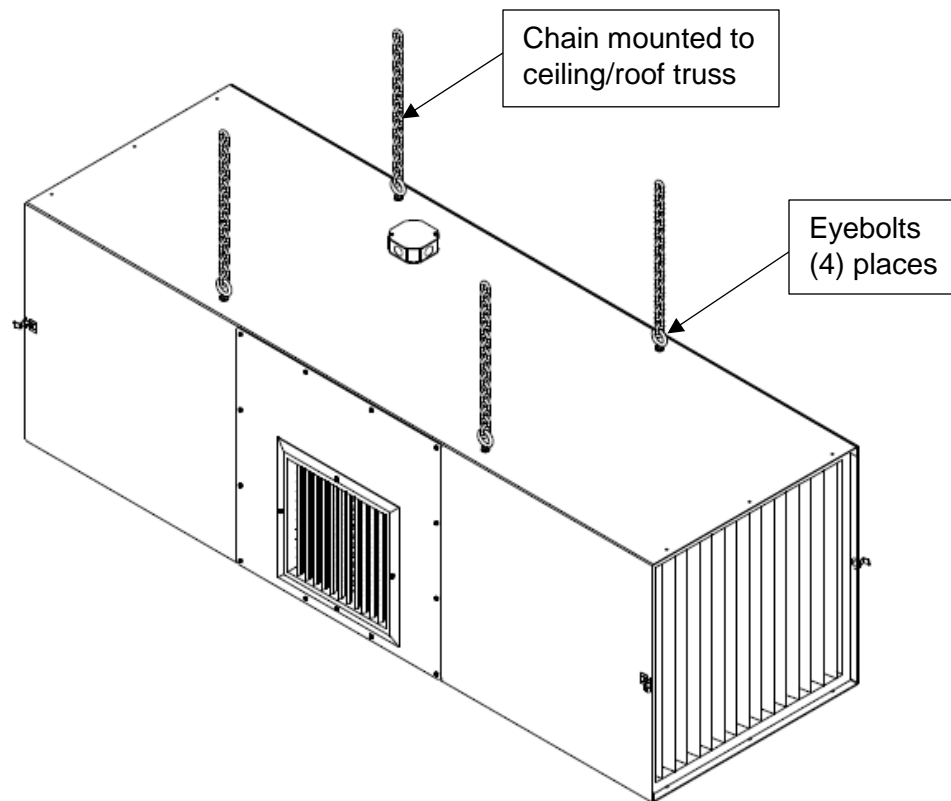

FIG. 1
3. Once eyebolts are secured, the MXT3500 is ready to be hung in an appropriate location (See **FIG. 1**).
2. Lift unit to access the threaded holes on the bottom of the cabinet. **NOTE:** The cabinet can be lifted by installing eyebolts on the top. Eyebolts are not supplied by Micro Air (See **FIG. 1**).
2. Install wall mount. The brackets have (8) 7/16" holes to mount to wall. The holes are spaced 16" apart horizontally by 24" vertically. **NOTE:** Anchors are not supplied by Micro Air. Minimum embedment depth for a 3/8" dia. wedge anchor is 1-1/2".
3. Lift unit to access the threaded holes on the bottom of the cabinet. **NOTE:** The cabinet can be lifted by installing eyebolts on the top. Eyebolts are not supplied by Micro Air (See **FIG. 1**).
3. Lift unit to access the holes on the bottom of the cabinet. **NOTE:** The cabinet can be lifted by installing eyebolts on the top. Eyebolts are not supplied by Micro Air when the unit is supplied with the floor stand (See **FIG. 1**).